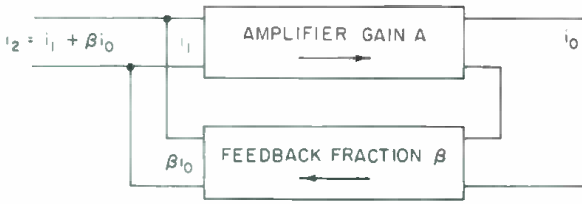
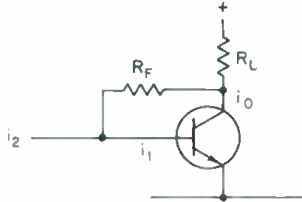

Figure 2. An alternative feedback block schematic: current in, current out.
Figure 3. A typical transistor stage, that can be analyzed in terms of Figure 2.
If we redraw the block schematic of FIGURE 1 for current gain instead of voltage gain, it will look like FIGURE 2. Applied to a practical transistor stage, it might look like FIGURE 3. Here R_L is the collector load resistor, and R_F is the feedback resistor. The current through R_F will be $R_L / (R_L + R_F)$ of the transistor output current. That is the value β will have in formula (1).